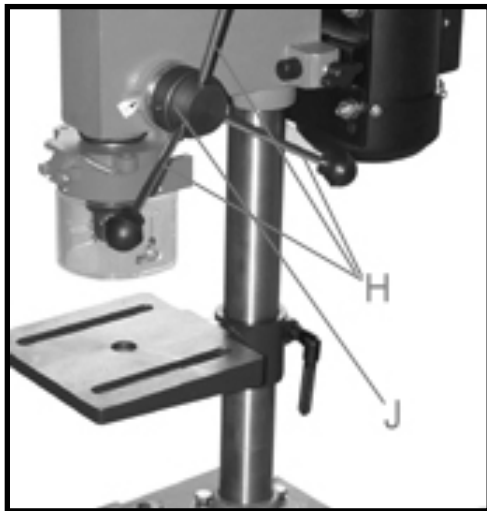

Fig. 8
5. Thread the three pinion shaft handles (H) Fig. 8, into the three holes located in the handles holder (J) as shown.